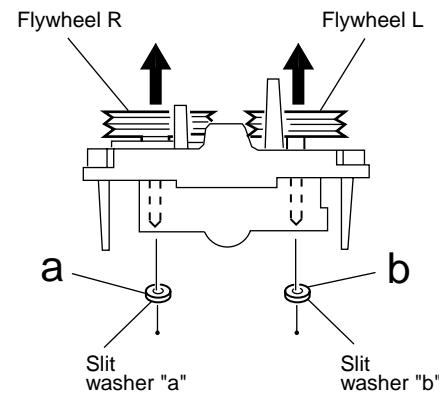

Fig.9
■ Removing the flywheel (See Fig. 9 and 10)